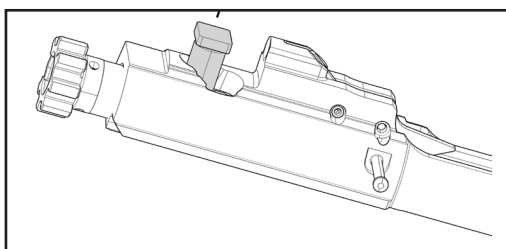

Fig. 40 – Remove the Cam Pin
e. Lift up and remove the cam pin from the shaft of the bolt head (Fig. 40).